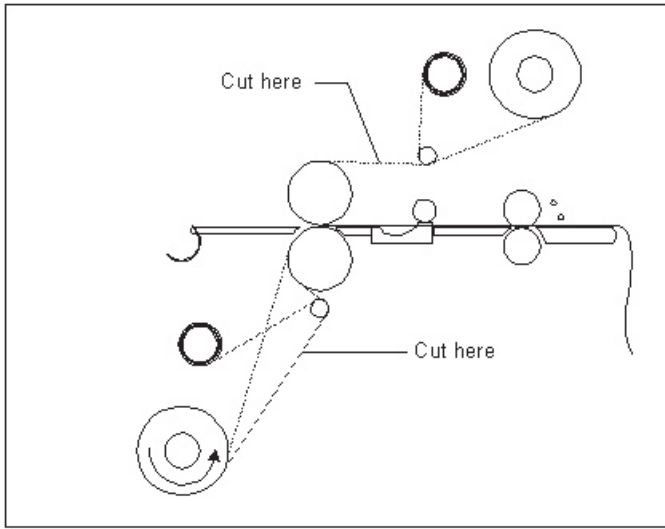

Fig 33
1. Cut remaining top and bottom film webs between the idler bar and heat rollers (Figure 33).